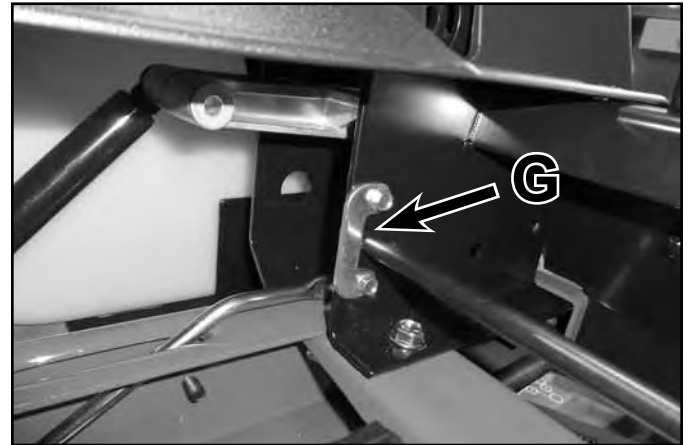

Fig. 023
1. Maneuver the speed control lever (B) into the chassis. Be sure the speed control lever rod engages the control box notch (G) and the rod end forks engage the hydro pin (F) on both the RH and LH side (Fig. 023).